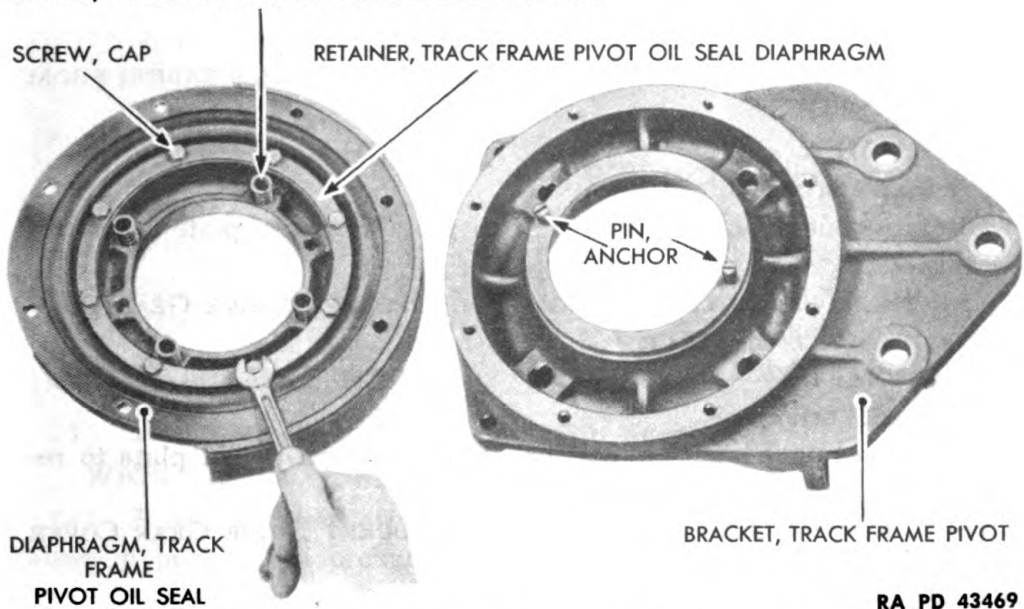

Figure 129 — Diaphragm Retainer and Diaphragm Removal
- (c) Use $\frac{7}{16}$ -inch open-end wrench to remove 8 cap screws with lock washers which hold retainer to track frame pivot oil seal pressure plate (fig. 129).